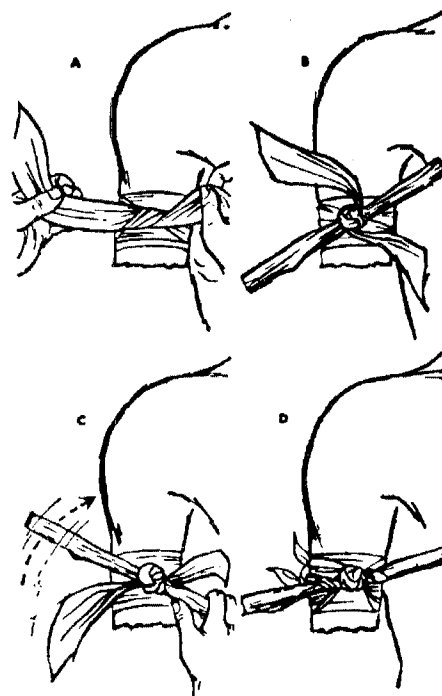

Fig. 4—Application of Tourniquet
- (1) Place it close above the wound, between the body and the wound.
- (2) Make sure that it is applied tightly enough to stop bleeding.
- (3) Wrap the material tightly twice around the limb if possible and tie a half knot. (See A, Fig. 4.)
- (4) Place a short stick on the half knot and tie a full knot. (See B, Fig. 4.)
- (5) Twist the stick to tighten the tourniquet until the flow of blood ceases. (See C, Fig. 4.)
- (6) Secure the stick in place with the loose ends of the tourniquet or another strip of cloth. (See D, Fig. 4.)
- (7) A notation should always be made and attached to the victim, giving the time of application and location of the tourniquet.
- (8) **DO NOT RELEASE THE TOURNIQUET ONCE IT HAS BEEN APPLIED. IT IS URGENT THAT SUCH CASES HAVE MEDICAL ATTENTION AS SOON AS POSSIBLE.**
- (1) If on an extremity, apply a constricting band for **5 minutes only** just above the bite. (See Fig. 4.)
- (2) Keep the affected part lower than the rest of the body and apply ice, ice water or any cold application locally for two hours.
- (3) Obtain medical attention.